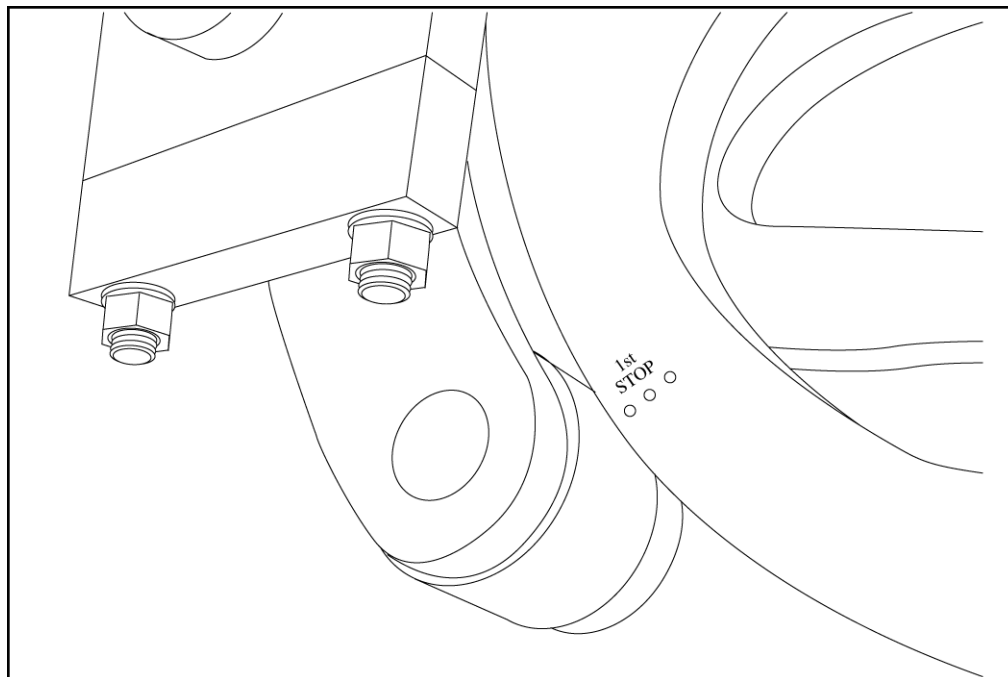

Figure 4.31 "FIRST STOP" (R.H. SIDE OF MACHINE)
4.3.1 Run machine to "first stop" (see figure 4.31).